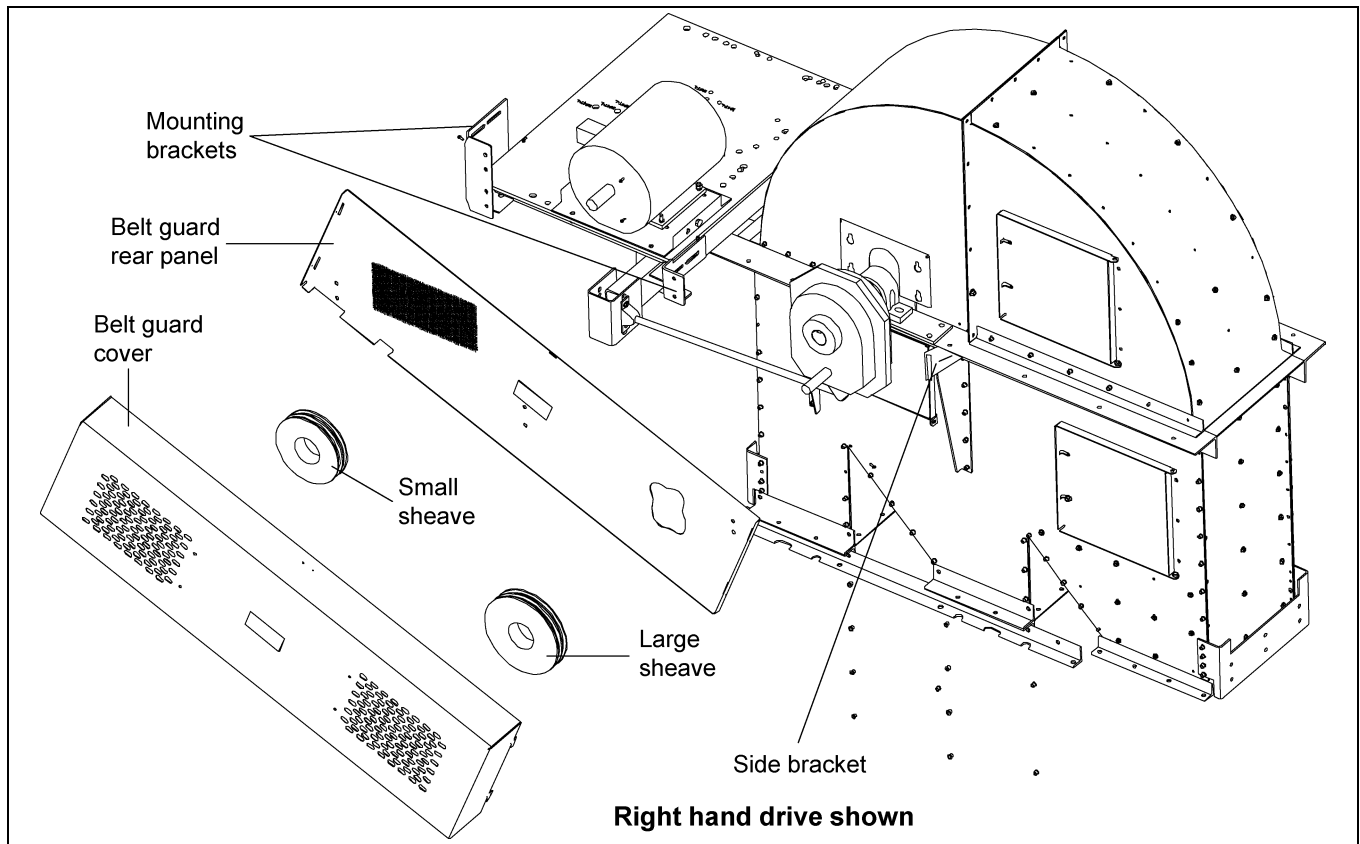

Figure 11F Belt Guard
1. Attach the drive guard brackets to the motor mount assembly. (See Figures 11F-11J on Pages 32-34.) The shorter, broken legs of the brackets will point towards the pulley.
2. Align the guard rear panel of the guard to the brackets. NOTE, in a right hand drive application (as shown in Figures 11F-11J on Pages 32-34) the flanges of the guard rear panel will face away from the head section, but in a left hand application, the flanges will point towards the head section.
8. Install the safety screen around the motor output shaft by approximating the hole location to the screen and snipping a clearance hole in screen. (See Figure 11F on Page 32.)